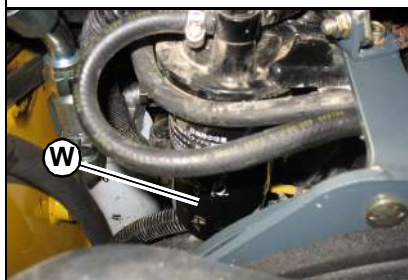

Figure 101 – Fuel Filter
4. Remove the fuel filter (W, Figure 101), using a filter wrench if necessary. Carefully clean the filter head mounting surface with a clean cloth.